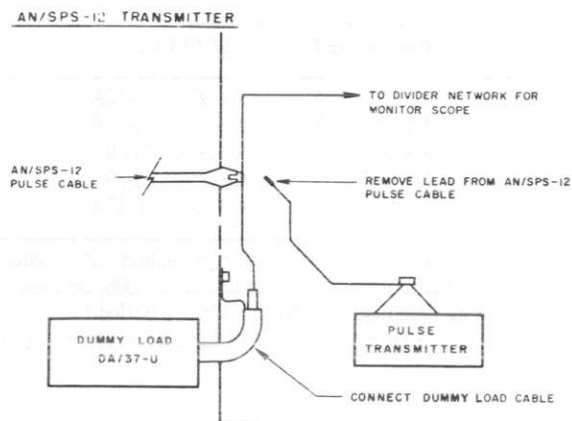

FIGURE 1
a. In the AN/SPS-12 transmitter, disconnect the lead from the end of the pulse cable which connects to the pulse transformer. Connect the lugged end of the dummy load pulse cable to the AN/SPS-12 pulse connection (See figure 1). Position the dummy load pulse cable to keep maximum possible space between the center conductor and ground. Start the blower motor in the dummy load and the